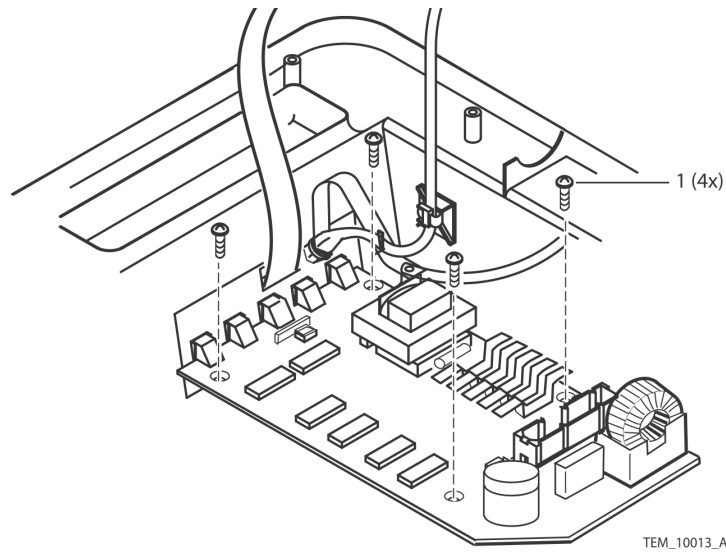

Figure 35. Control PCB Screws
8. Carefully place the replacement Control PCB into the front cover assembly and install the mounting screws. Tighten the screws to 4 to 6 in/lbs (10 to 15 cm/kg). See Figure 35.